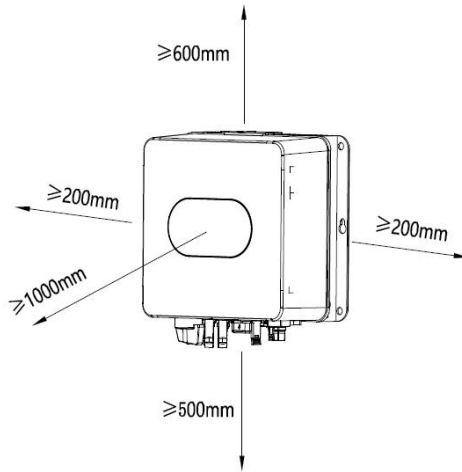

Fig 4.4 Installation spacing of inverter
(2) There is enough reserved space around the installation site to facilitate the disassembly and assembly of inverter and air convection. As shown in Fig 4.4.
(3) When installing multiple inverters, a certain distance shall be reserved between the inverters, as shown in Figure 4.4. At the same time, sufficient distance shall be reserved between the upper and lower parts of the inverter to ensure good heat dissipation.